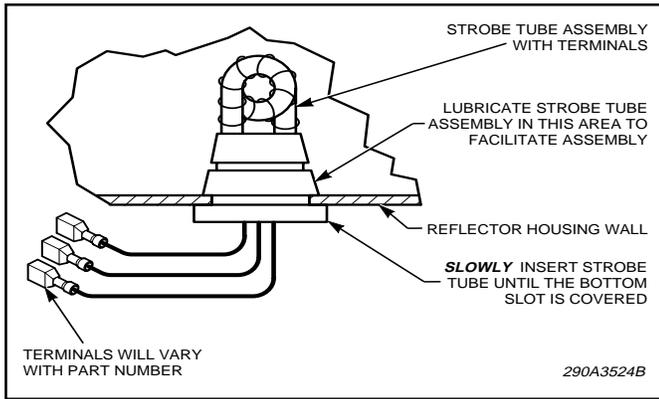

Figure 2.
5. See figure 2. SLOWLY insert the strobe tube in the reflector housing until it is properly seated in the bottom slot of the strobe tube. If the strobe tube is difficult to insert, remove it and apply a silicone-based grease, or Vaseline, to the rubber edge of the strobe tube and try again.